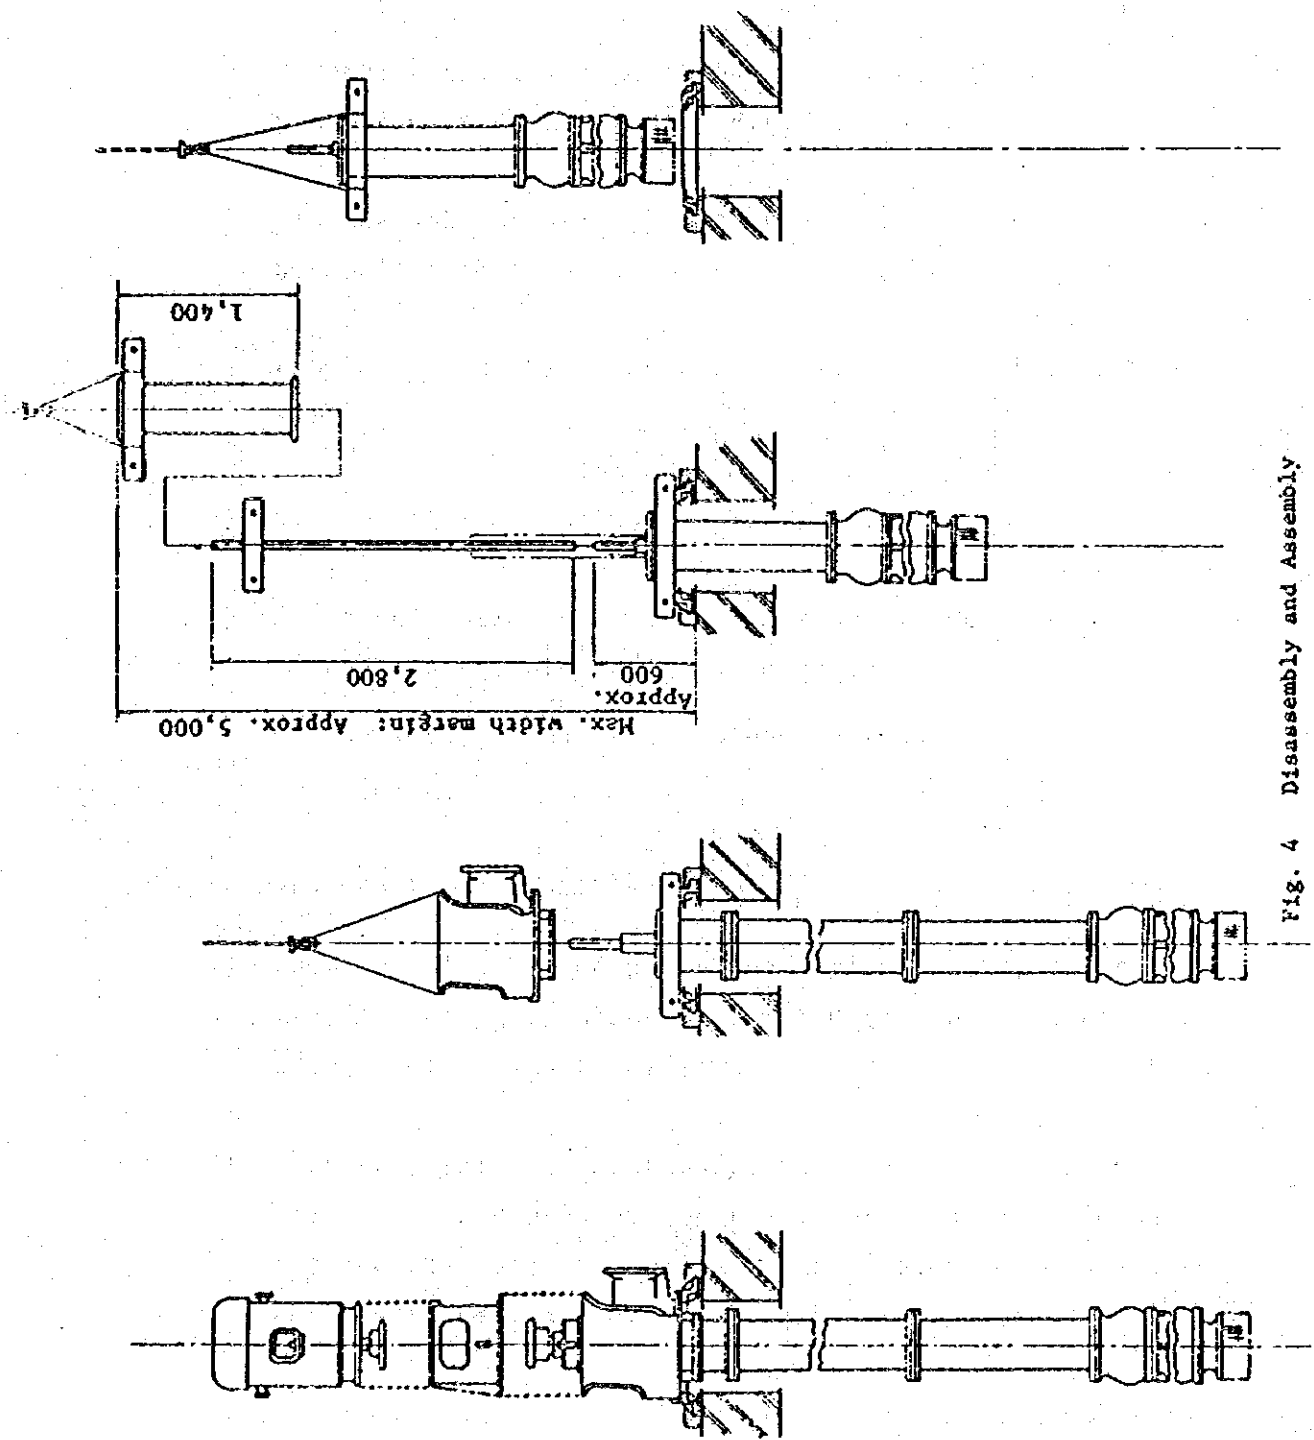

Fig. 4 Disassembly and Assembly
**Note:** When any good crane (truck) is not provided on a site and the pump cannot be installed at a pit after assembly, reassemble it in accordance with the instructions shown in Fig. 4. Perform the work in accordance with the instructions of steps 1. to 35.